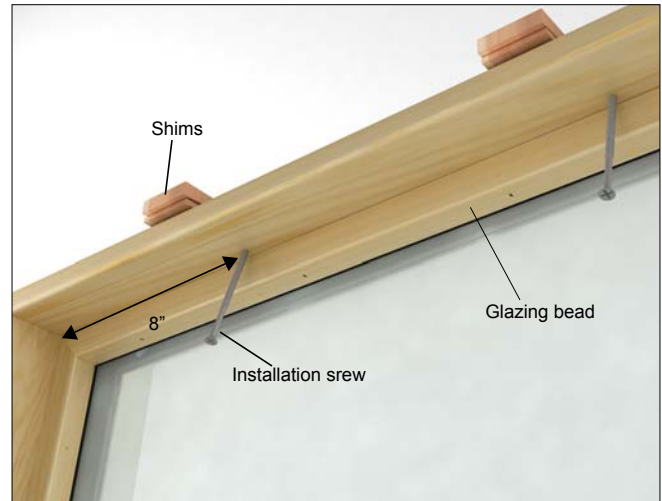

Figure 10 ICADG mull units
1. Mark and pre-drill 1/4" (6) from the glazing bead at a 15° angle, with a 7/64" (3) drill bit, 8" (203) from each end and a maximum 14" (356) evenly spaced. Shim and fasten through the screw holes using the 3 1/8" round top installation screws. See figure 10. Apply putty over screw holes.